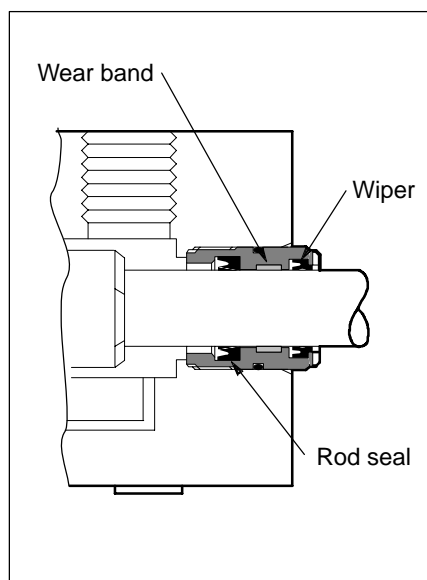

Figure 2.
6. Lightly lubricate the new rod seal, wear band and wiper. Install them in the cartridge as shown in Figure 2. Carefully lead the outside sealing edge into each groove. Be careful not to damage the seal or wiper.